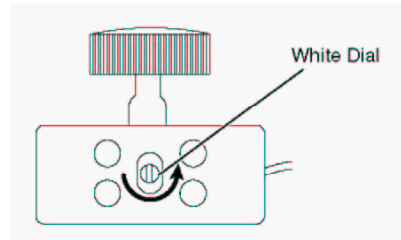

**Figure 39 -
10. Turn blowers with discharge vent facing up. Slide the discharge vent so that it is facing up. Slip discharge vent flange under the flange bracket flush against the sidewall. Slide blower side tabs over into side flange. *Figure 39*. The blower is now locked in place.